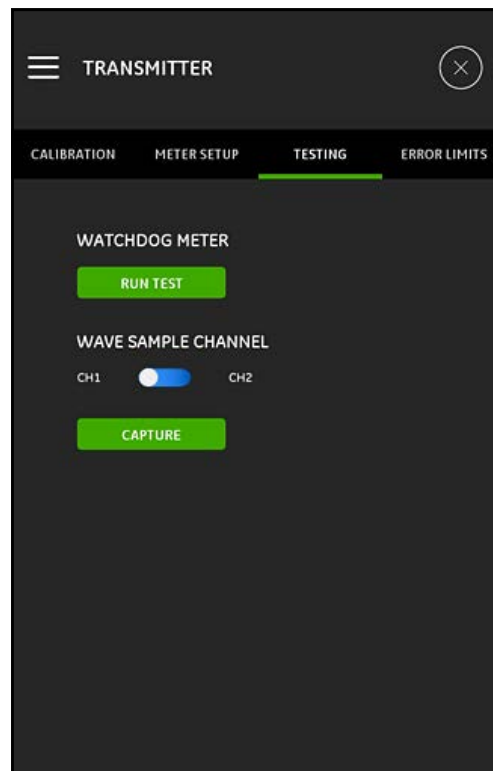

Figure 132: The TESTING Menu
The TESTING menu (see *Figure 132* below) is used to ensure that the PT900 is performing properly. The following tests are included:
1. Click the RUN TEST button in the TESTING menu (see *Figure 132* on page 100).